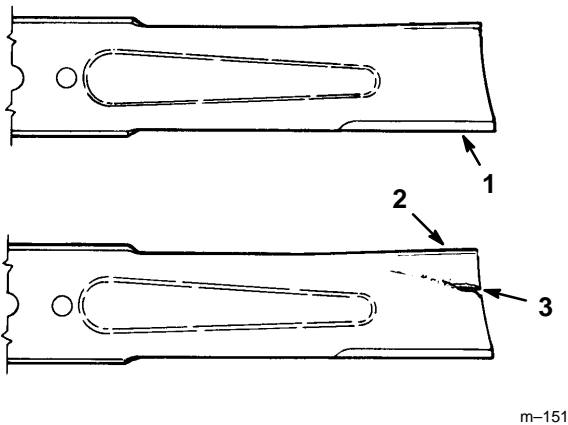

Figure 6
1. Inspect the cutting edges (Fig 6). If the edges are not sharp or have nicks, remove and sharpen the blades. Refer to Sharpening the Blades on page 10.
2. Inspect the blades, especially the curved area (Fig. 6). If you notice any damage, wear, or a slot forming in this area (item 3 in Fig. 6), immediately install a new blade.